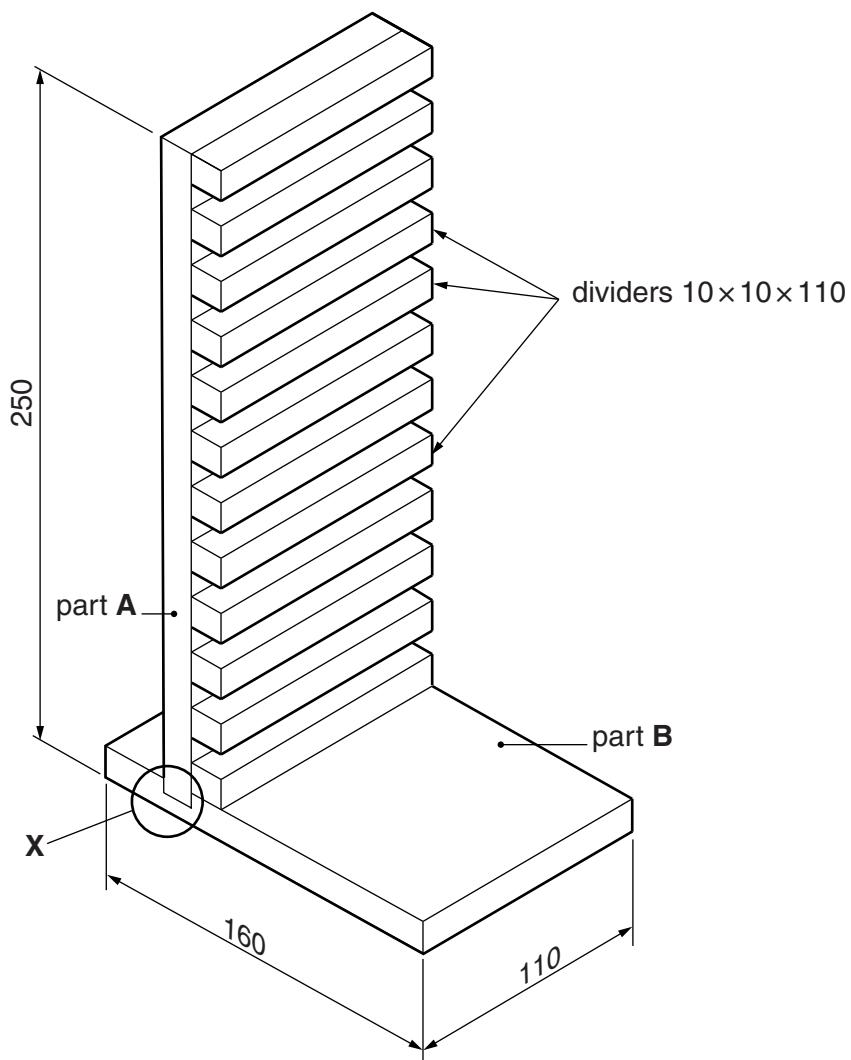

Fig. 1
- 1** Fig. 1 shows a CD rack which is to be made in a school workshop.